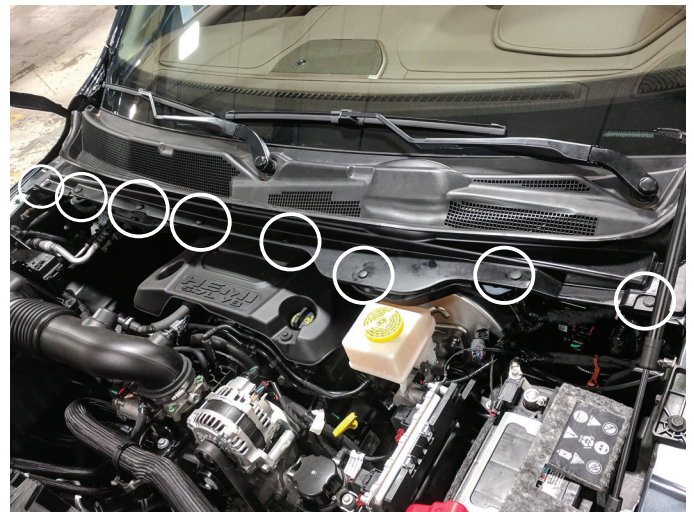

Figure 4
8. Using a plastic panel pry tool, remove the eight (8) panel push pins to remove the OEM wiper cowl. (Figure 4)